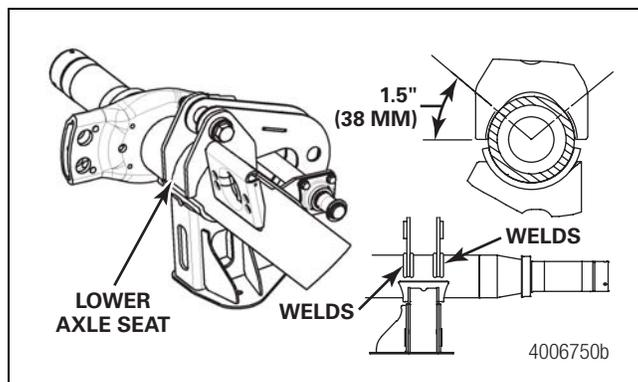

Figure 2
- B. Verify the welds are nominally 1.5-inches (38 mm) long and 0.25-inch (6.35 mm) wide on each side of the lower axle seat onto the axle. The welds should not be more than 1.5-inches (38 mm) long. Figure 2.
2. Use 0.035 E70 wire and 75/25 gas to weld the missing or incomplete areas. Make each weld 1.5-inches (38 mm) long and 0.25-inch (6.35 mm) wide. Welds should not be longer than 1.5-inches (38 mm). Do not weld over the end of the lower seats. Figure 2.